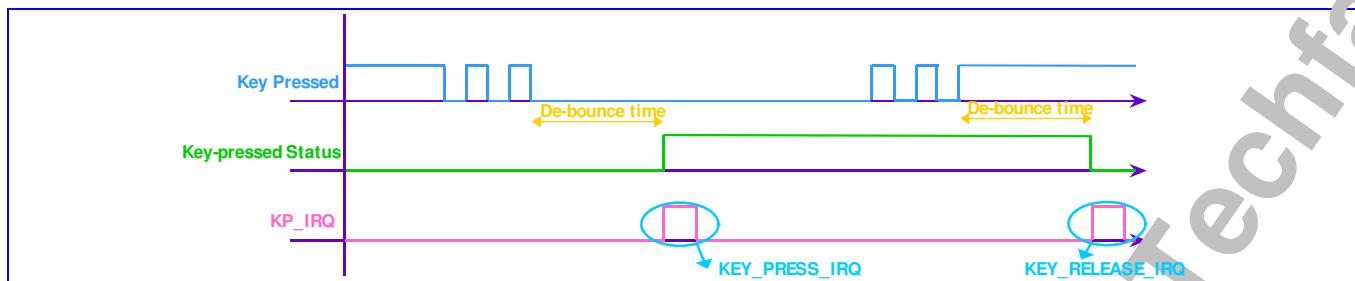
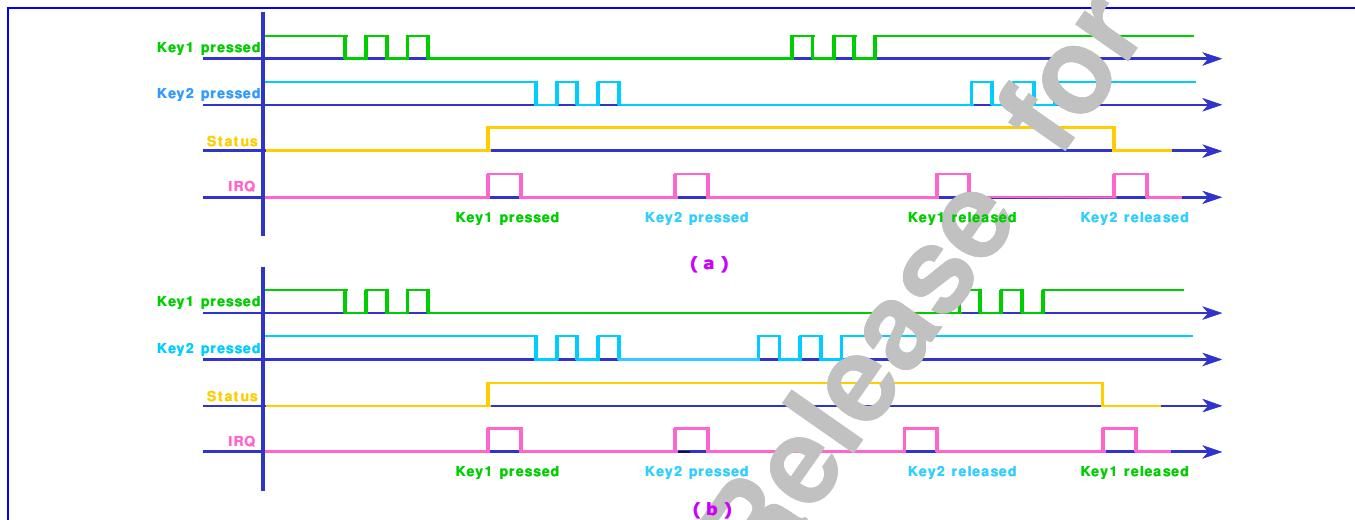
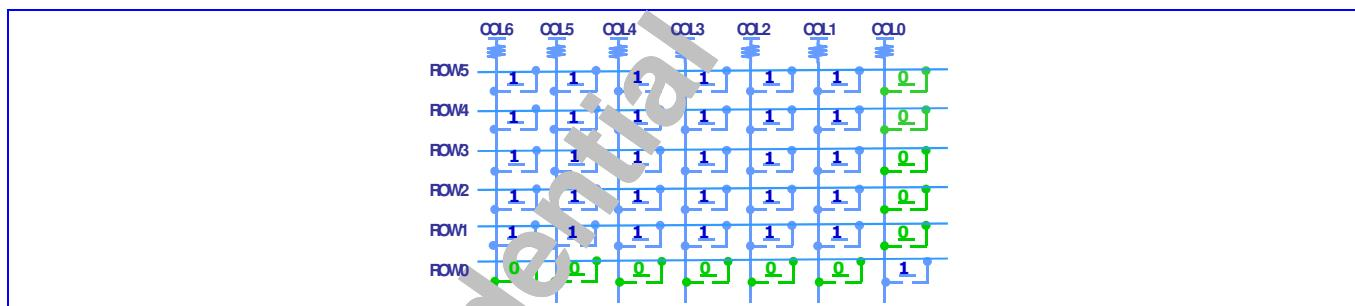

Figure 25 One key pressed with de-bounce mechanism denoted
Figure 26 (a) Two keys pressed, case 1 (b) Two keys pressed, case 2
Figure 27 11 keys are detected at the same time
The keypad can be divided into two parts: one is the keypad interface including 7 columns and 6 rows; the other is the key detection block which provides key pressed, key released and de-bounce mechanism. Each time the key is pressed or released, i.e. something different in the 7 x 6 matrix, the key detection block will sense it, and it will start to recognize if it is a key pressed or key released event. Whenever the key status changes and is stable, a KEYPAD IRQ will be issued. The MCU can then read the key(s) pressed directly in KP_HI_KEY, KP_MID_KEY and KP_LOW_KEY registers. To ensure that the key pressed information will not be missed, the status register in keypad will not be read clear by APB bus read command. The status register can only be changed by the key-pressed detection FSM. This keypad can detect one or two key-pressed simultaneously with any combination. **Figure 25** shows one key pressed condition. **Figure 26(a)** and **Figure 26(b)** indicate two keys pressed cases. Since the key press detection depends on the high or low level of the external keypad interface, if keys are pressed at the same time and there exists a key that is on the same column and the same row with the other keys, it will not be able to decode the correct key pressed. For example, if there are three key presses: key1 = (x1, y1), key2 = (x2, y2), and key3 = (x1, y2), then both key3 and key4 = (x2, y1) will be detected, and therefore it will not possible to distinguish correctly. Hence, the keypad can detect only one or two keys pressed simultaneously at any combination. Due to the keypad interface, more than two keys pressed simultaneously with some specific pattern will get the wrong information. If these specific patterns are excluded, the keypad-scanning block can detect 11 keys at the same time and it's shown as **Figure 27**.